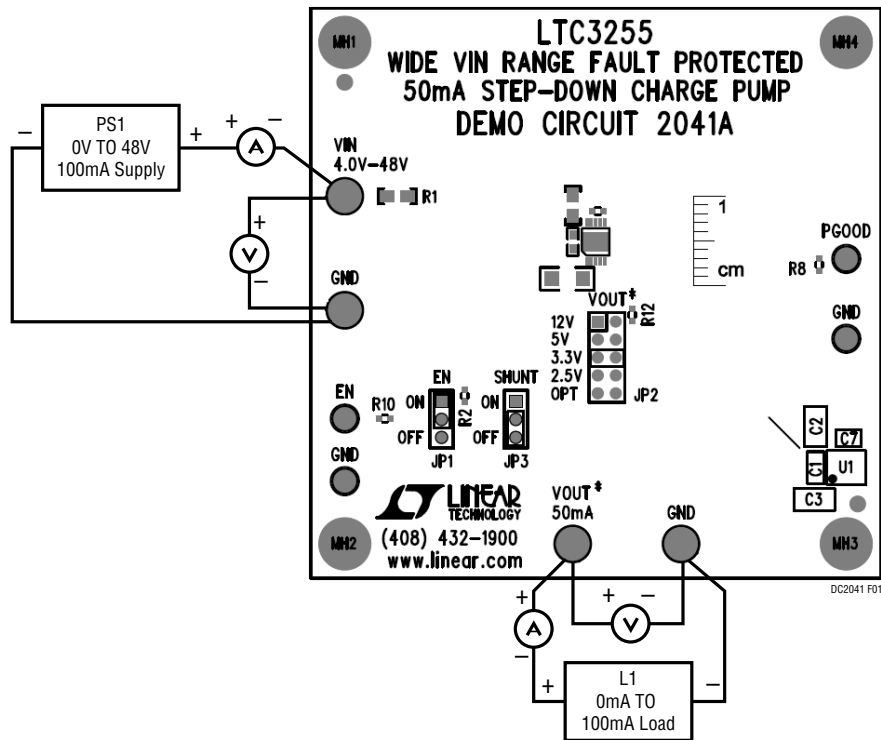

Figure 1. Proper Measurement Equipment Setup with Shunt Disabled
The DC2041 is easy to set up to evaluate the performance of the LTC3255 with the shunt disabled. Refer to Figure 1 for proper measurement equipment setup with the shunt disabled and follow the evaluation procedure below. To evaluate the LTC3255 with the shunt enabled, go to the SHUNT ENABLED section.
4. With power off, connect a 0V to 48V, 100mA power supply to  $V_{IN}$  and GND with a voltmeter as shown in Figure 1.